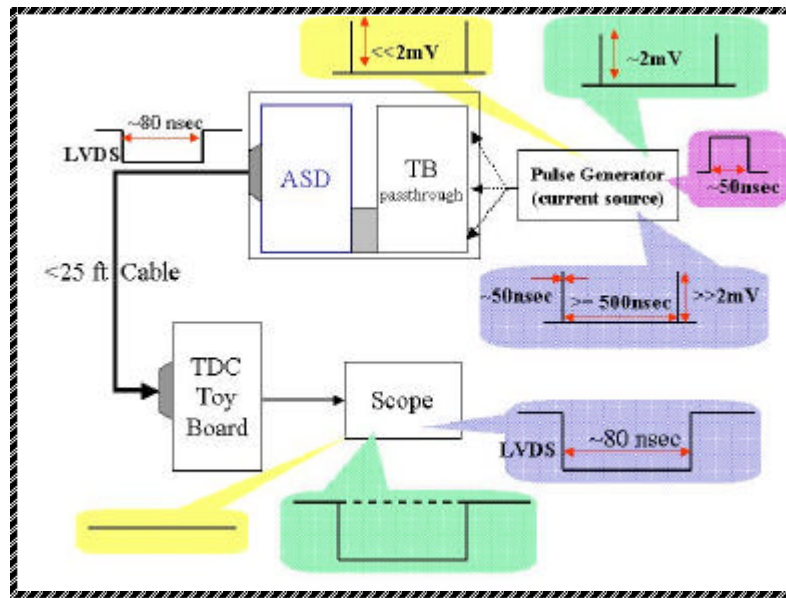

Figure 4
**Setup:** look at Figure 4. When an input signal on the ASD goes above the threshold (~2mV), the ASD fires an LVDS signal that is ~80 nsec long, and stays blind to any input for another ~20 nsec. The input voltage should go below the threshold for ASD be able to fire again. The ASD board must not fire at all if the input signal is well below the threshold, fire at 50% rate for the input signal at the threshold, and fire at 100% rate when the input is well above the threshold.